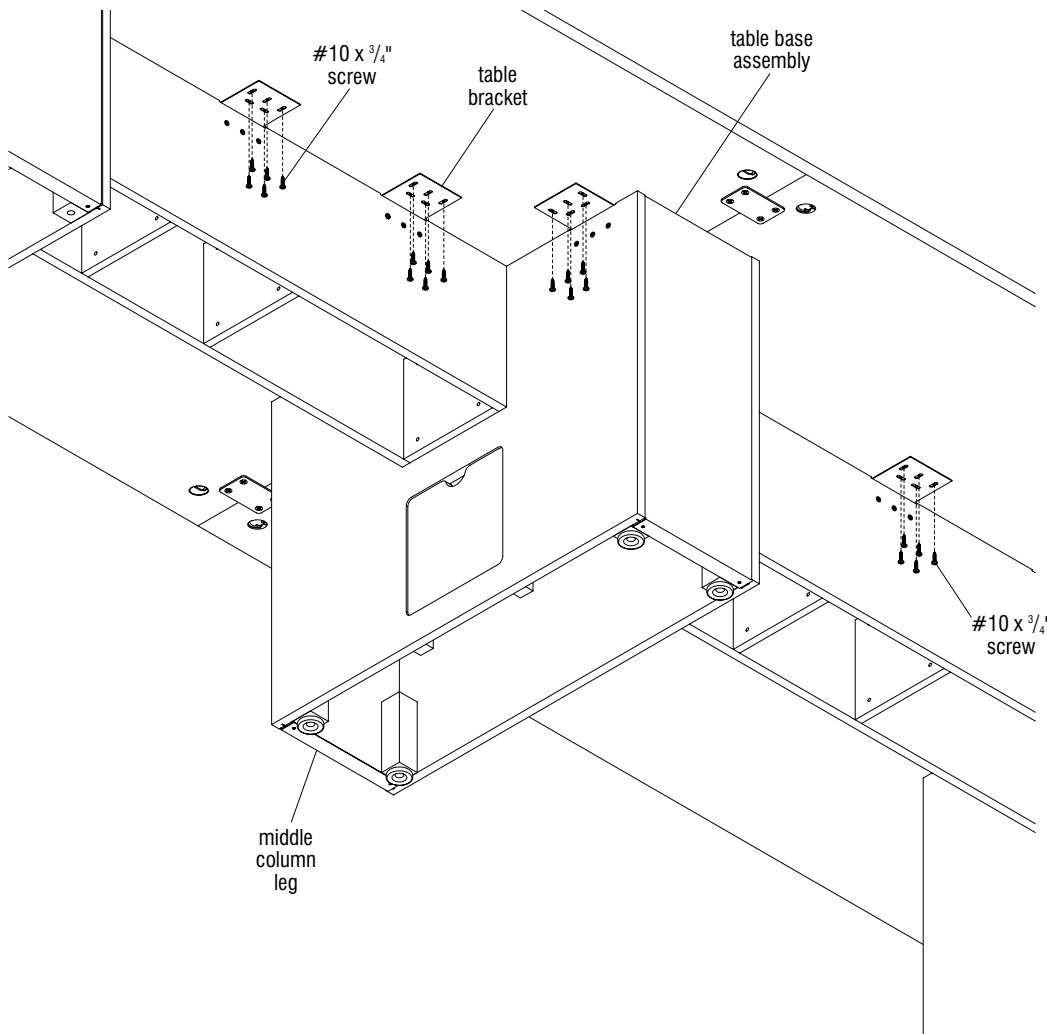

Figure 8
11. Once all joint fasteners and splice plates are securely installed, and joint quality on the surface is good, carefully slide the table top into position and align all table bracket slots to the pre-drilled holes in the underside of the table top. Make sure all bracket slots and pre-drilled holes are aligned, then secure using five #10 x 3/4" screws per bracket. Do not over-torque screws which could strip out the pre-drilled holes. Take care to securely install all table brackets to the underside of the table using the full amount of the required screws (Figure 8).